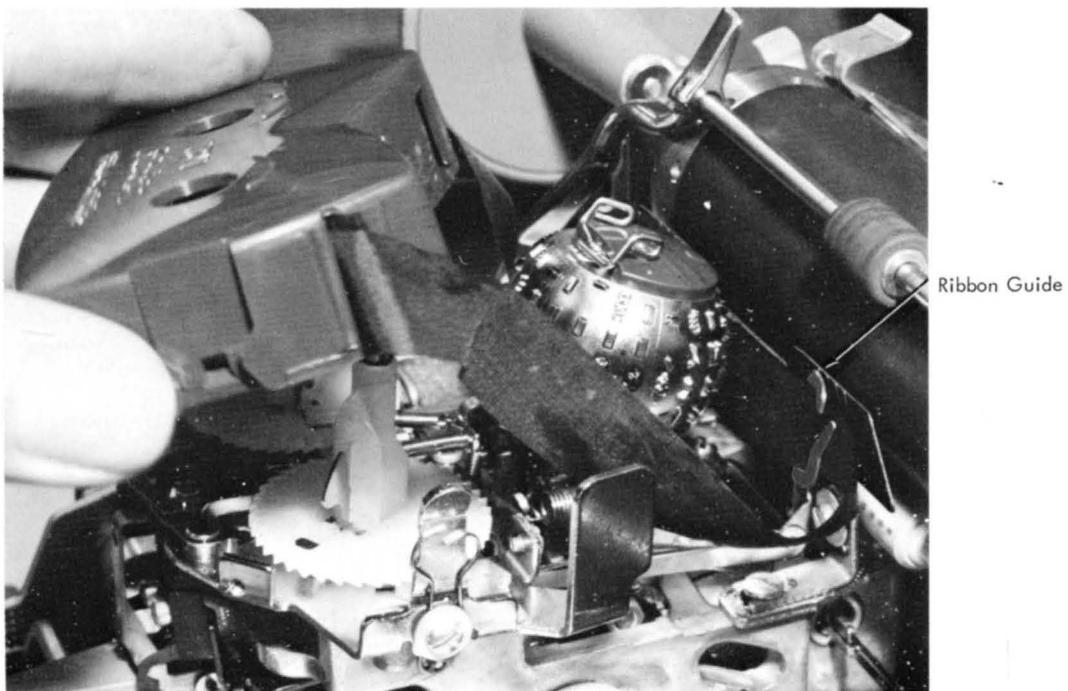

Figure 91. Removing Ribbon Cartridge
5. Lift ribbon cartridge straight up off of the carrier ribbon posts (Figure 91).